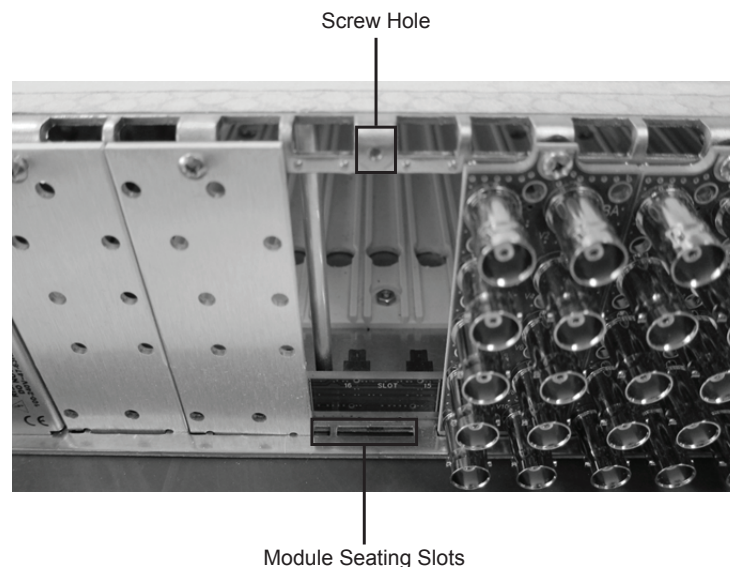

Figure 2.1 Rear Module Installation in an OG3-FR Series Frame (VAC-100 not shown)
3. Install the bottom of the Rear Module in the **Module Seating Slot** at the base of the frame’s back plane. (**Figure 2.1**)